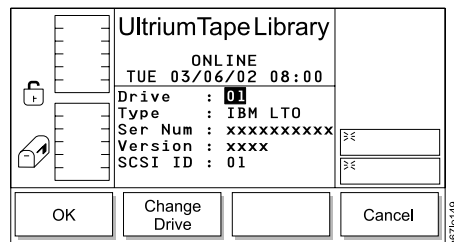

Figure 89. Drives Dialog
2. Press the button below the **Drives** softkey. The Drives Dialog displays (see Figure 89).